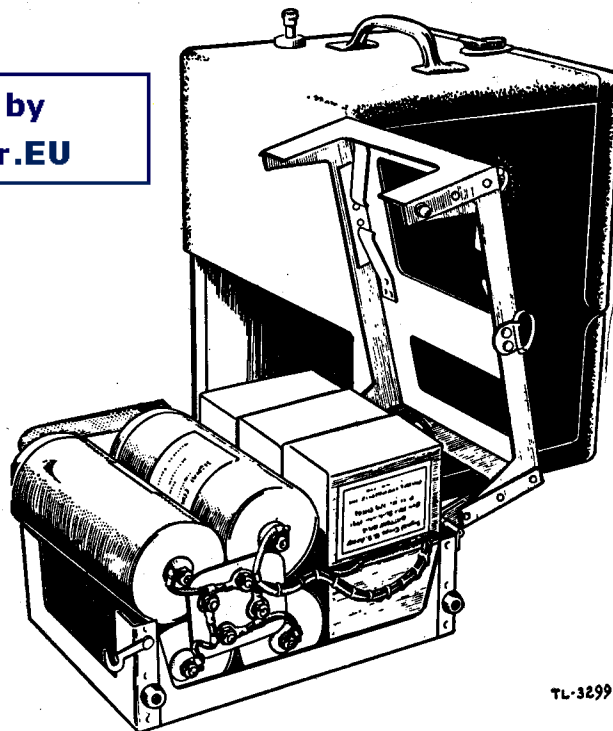

Figure 35. Frequency Meter BC-221-(2), loaded battery tray with sections separated to show construction.
b. DESCRIPTION OF BATTERY TRAY. The tray (fig. 35), is hinged at one end and held in place by two hooks near the opposite end. When the hooks are released, the tray should open easily and spread out to allow changing of the batteries. Place the opened battery tray so that the ring used to remove it faces the operator. Three of the six *B* Batteries BA-2 are placed in the right-hand section of the tray (the lower half), against the terminal board which is secured to the tray.